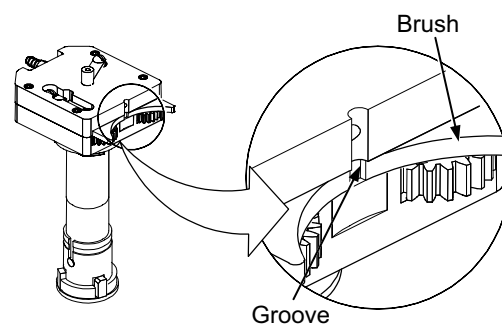

Figure 29 Inspecting the Brush
9. Examine the brush. See Figure 29.